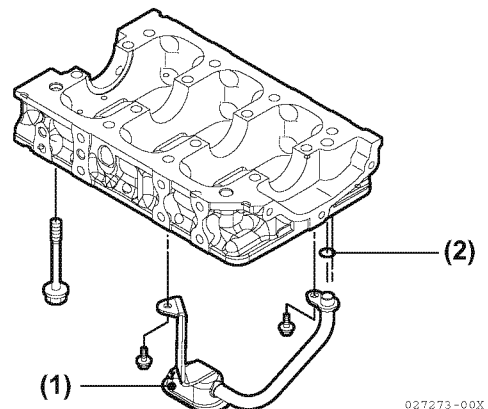

Figure 6-102
1. Reinstall the oil pickup tube (**Figure 6-102, (1)**) and a new O-ring (**Figure 6-102, (2)**).